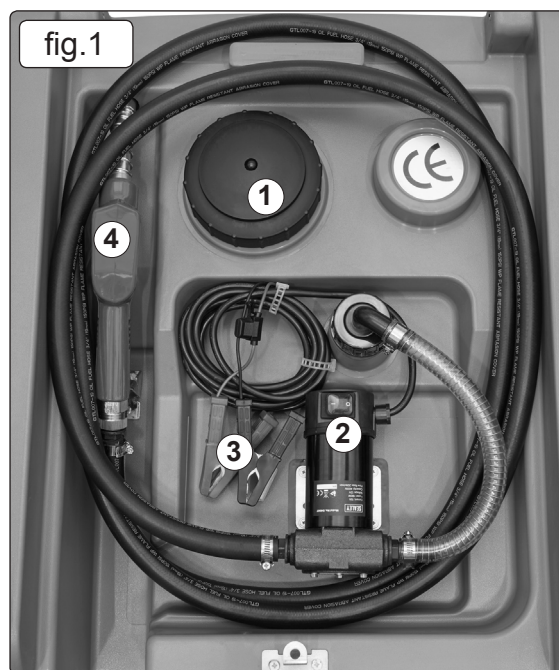

fig.1A
Key: (fig.1. & fig.1A).
- 4.1.1. Move the empty tank assembly with two persons using the hand holds moulded into the base of the unit (fig.1A.8).
- 4.1.2. Move by forklift truck using the fork locations shown in (fig.1A.7). Ensure that the filler (fig.1A.1) is closed before moving.
- 4.1.3. Secure the tank to the carrying vehicle by ratchet straps. Locations for the straps are moulded into the tank (fig.1A.5).